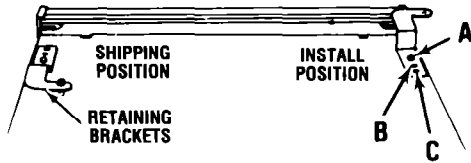

FIGURE 11
11. Loosen the screws in the top retaining brackets. Rotate the brackets from shipping position to the install position. Retighten. See Figure 11.